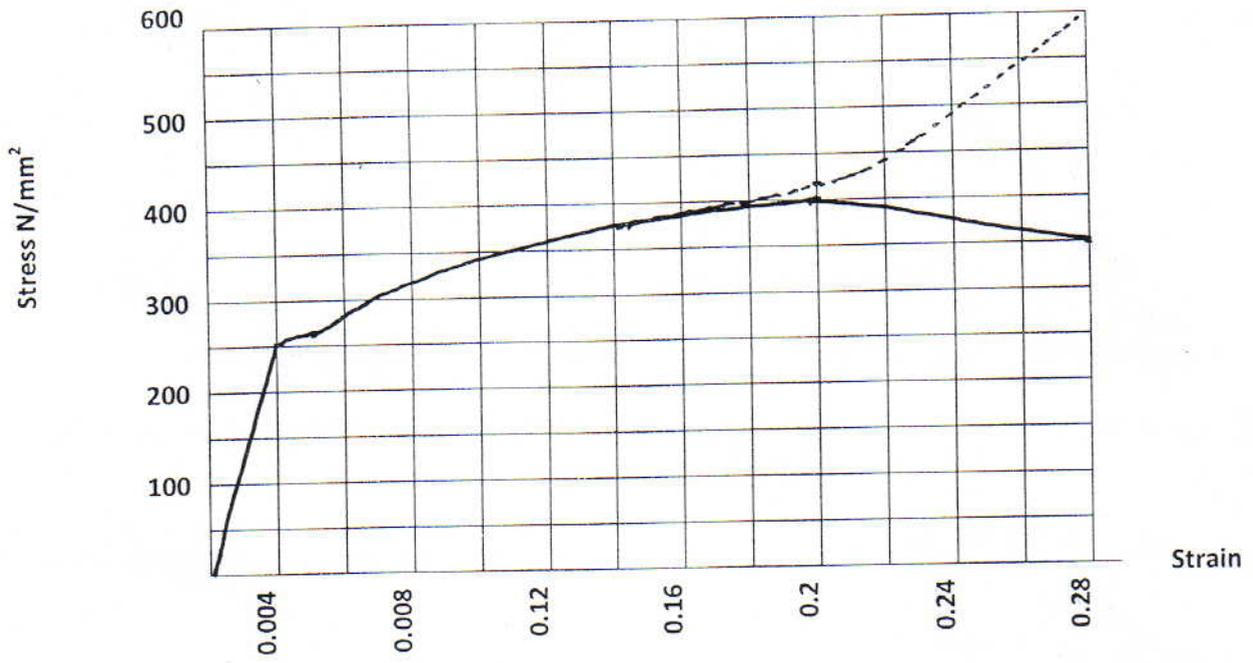

Fig. 1
Q1/ Fig. 1 shows the stress – strain curve for mild steel in tension. If the original diameter of the bar is 19mm, the gauge length is 220 mm. Determine:
1. Yield stress = 265 MPa (From Fig. 1 by using 0.2 % offset)
A_f from Fig. 1